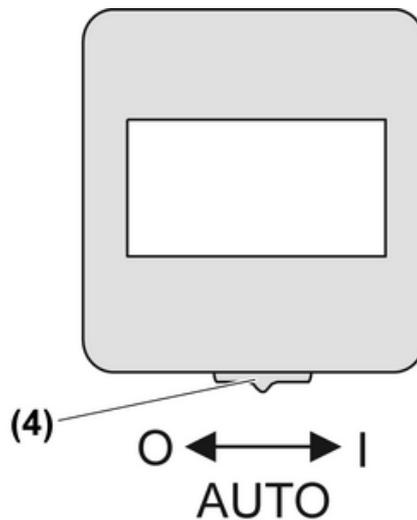

Figure 3: Operating mode switch
Three operating modes can be set using the operating mode switch (4) on the motion detector (Figure 3).